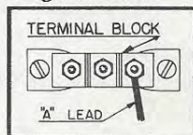

FIG. 3
14. Replace dial scale trim plate. Connect "A" lead to terminal block near steering column behind instrument panel as shown in figure 3.